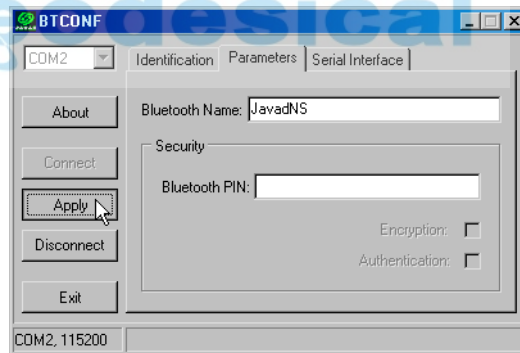

Figure 2-33. BTCONF Parameters Tab
6. Click the **Parameters** tab (Figure 2-33). The **Parameters** tab sets identifying and security information for your Bluetooth® module. The security section allows you to set data security and unauthorized access parameters for the Bluetooth® module.
7. Enter up to 14 characters to set a unique name for the Bluetooth® module (Figure 2-33), and click **Apply**
8. To set security parameters (Figure 2-33 on page 2-42), enter and enable the following, then click **Apply**: